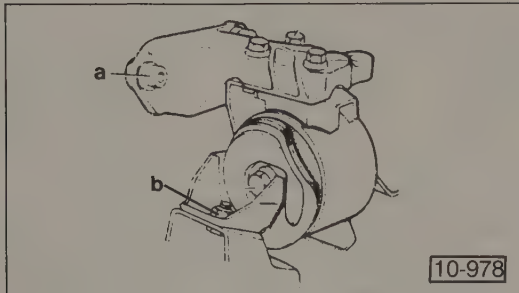

Fig. 5-4. Right rear engine mounting bolts (a and b) removed.
10. Remove the bolts from the right rear engine mount and remove the mount. See Fig. 5-4.